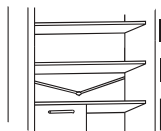

Fig. 19
- Keep the drainage pipe (fig.19) clean in the refrigerator compartment to keep it free of water.